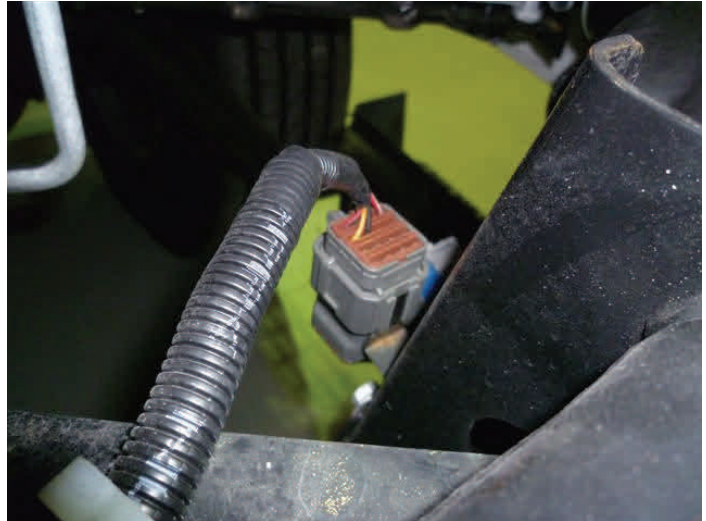

Fig. 1
4. Disconnect the headlight and fog light wiring harness as shown in Fig. 1